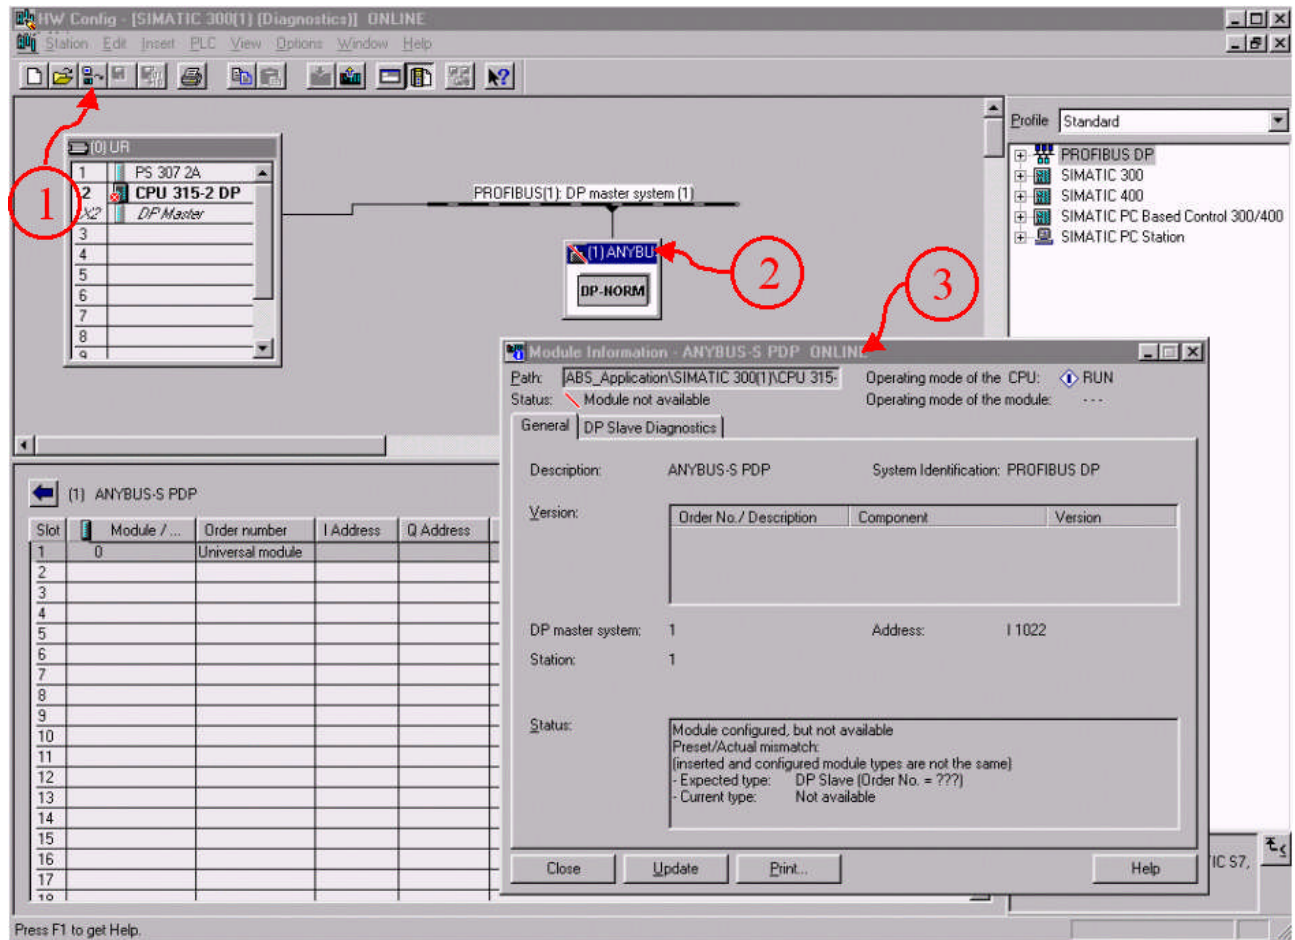

Figure 33 Step7 Hardware diagnostics
Step7 and the HW Config program provide diagnostic possibilities via the PROFIBUS master over the network. Start with going online by clicking on the button ❶ in Figure 33. Then right-click on ❷ and chose “Module Information” and the diagnostic function will be started. The window ❸ will be displayed and available diagnostics can be read out.